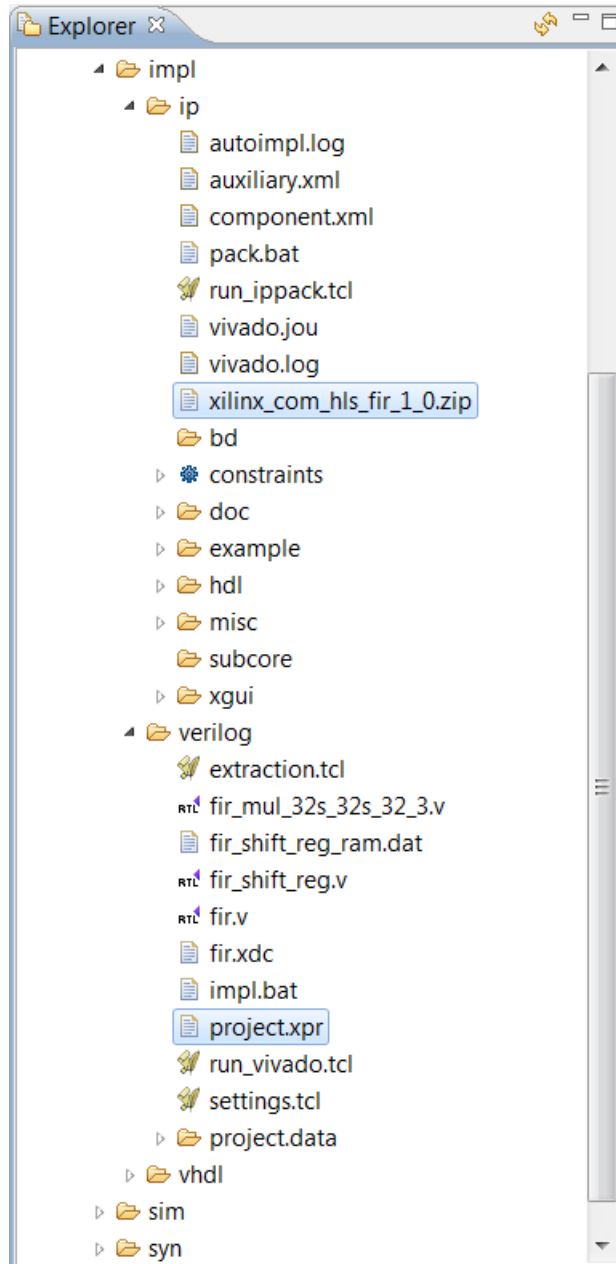

Figure 16: RTL Verification Results
6. Expand the **ip** folder and find the IP packaged as a zip file, ready for adding to the Vivado IP Catalog (Figure 16).
Also note, in Figure 16, that if you expand the Verilog or VHDL folders inside the `impl` folder, there is a Vivado project ready for opening in the Vivado Design Suite.